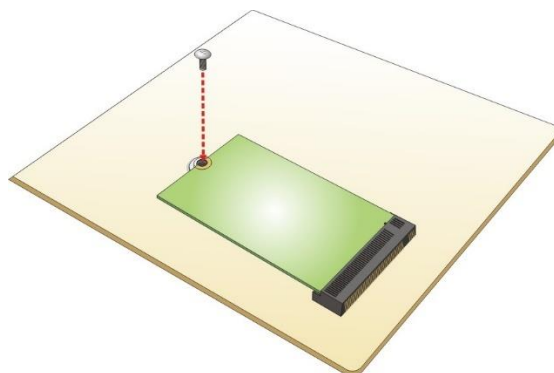

Figure 4-2: Securing The M.2 Module
Step 4: Secure the M.2 module with the previously removed retention screw (**Figure 4-2**).